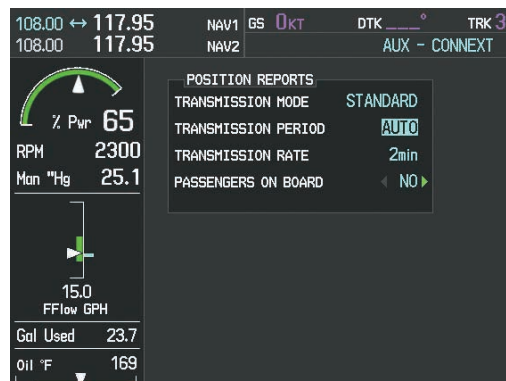

Figure 8-124 Set Transmission Period
- 1) With the AUX-CONNEX Page displayed, press the **FMS** Knob to display the cursor in the TRANSMISSION PERIOD field as in Figure 8-124.